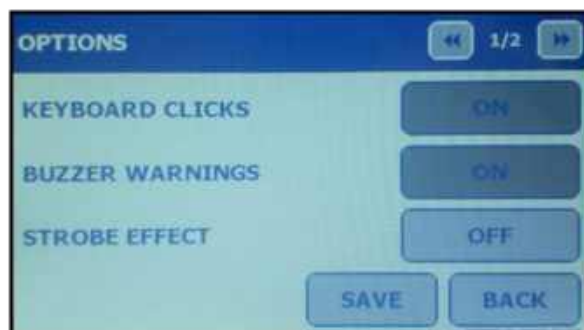

Figure V-26a: Options Screen (Page 1)
2. Scroll through the pages using the [ / >>] buttons located at the top right corner of the ‘Touch Screen’ (Figure V-26a and V-26b).